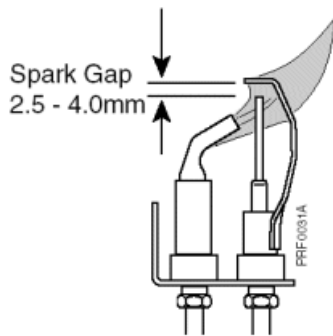

Fig. 30
The pilot is pre-set and no adjustment is required. The pilot flame envelope should cover the electrode tip and spark earthing strip, see Fig. 30. If the pilot flame is not as illustrated, remove and clean the pilot as described in the Servicing Instructions Section 4.3, Pilot Burner, Page 26.
I. Ensure that the spark gap is as illustrated in Fig. 30.
6. Replacement is the reverse of removal. On re-assembly ensure that the spark gap is as illustrated in Fig. 30.